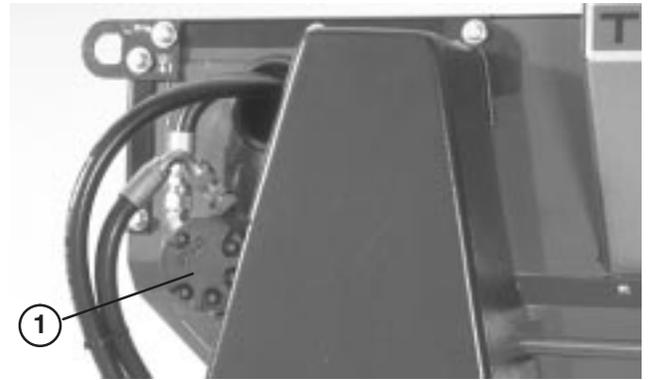

Figure 15
2. Loosen nuts securing brush motor (Fig. 15) to left side of machine.